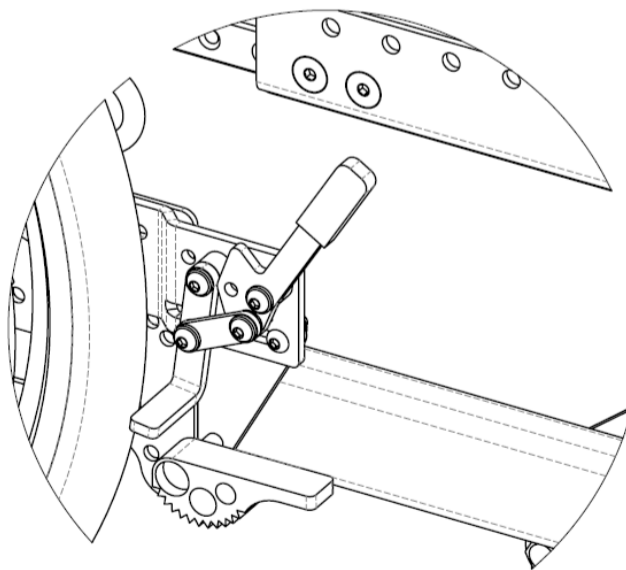

Figure 14.39: *Wheel Lock with Anti-Rollback Device*
6. To engage the anti-rollback device (Figure 14.39), push the anti-rollback cam into the down position.